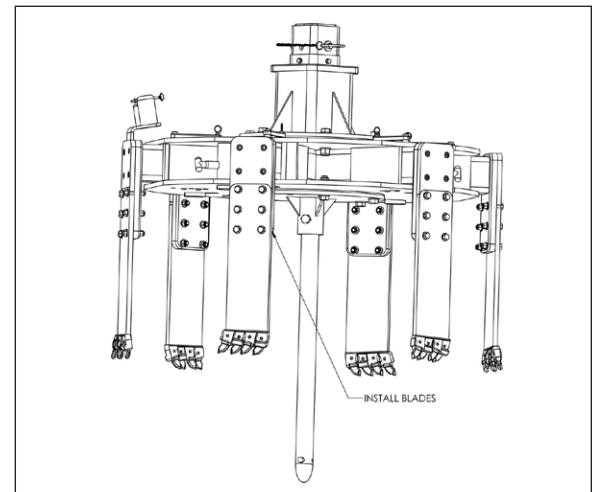

Figure 14. Install Cutting Blades
- 17.** To maximize space in the shipping container, the Six Shooter is shipped with its Cutting Blades detached. The Cutting Blades must be installed in the operational position before use. To install the Cutting Blades, use the 1/2" bolts (36), nuts (36), and washers (72). Install all 6 Cutting Blades as shown in Figure 14. (One note: As you face the blade, the teeth should point left.) Tools needed for installation: 3/4" socket and 3/4" wrench.